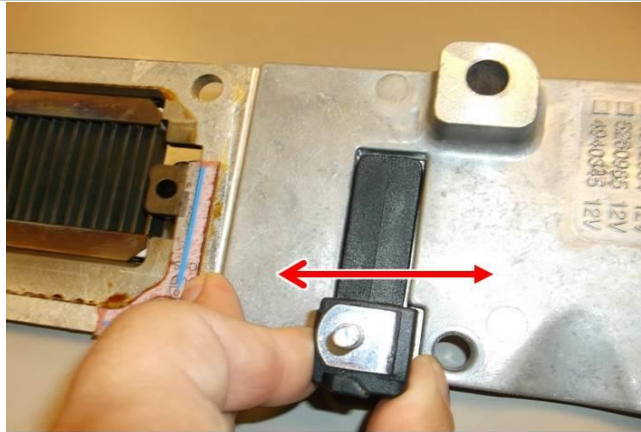

Figure 3
2. Check to see if the grid heater power terminal can be moved by hand (See Figure 3).